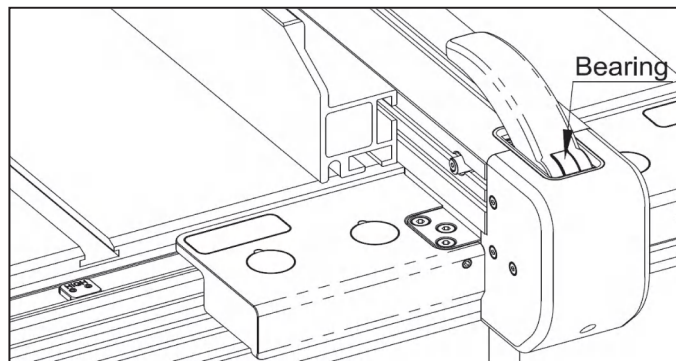

Fig. 9-1
- Ensure the fence moves smoothly without any wobbling. If wobbling is detected, inspect the rollers for looseness and make necessary adjustments as described in **chapter 6.6 (4)**.
- Test the locking mechanism for effectiveness. If any locking issues are observed, refer to **chapter 6.6 (5) and (6)** for adjustment instructions.
- Avoid water or sweat from reaching the bearing at the locking handle. Apply a rust inhibitor, as demonstrated in Fig. 9-1.